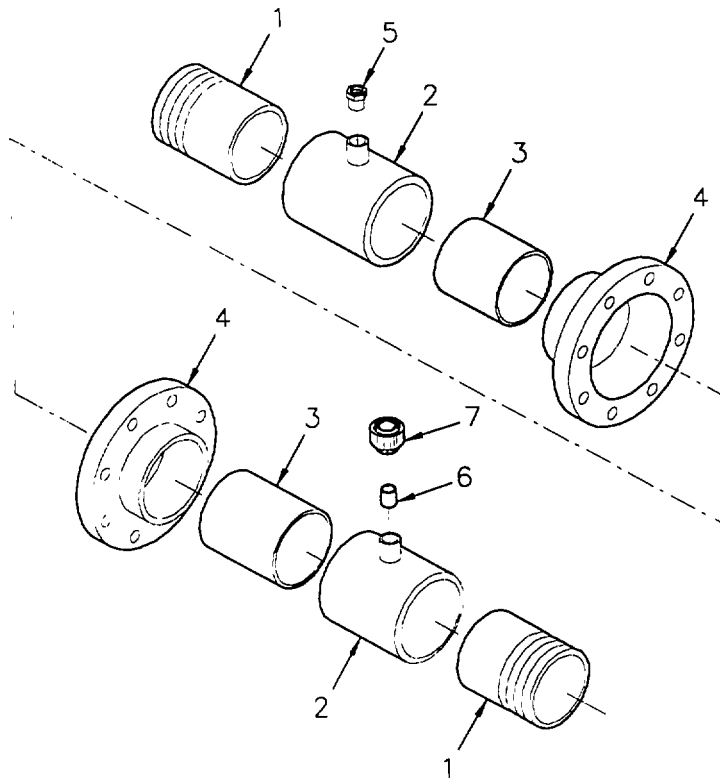

Figure 5-3. Manifold Repair
- (1) Temporarily insert pipe (3, Figure 5-3) into tee (2). Insert flange (4) over pipe (3).
- (2) Align top of tee (2) vertically between two holes in the top of flange (4).
- (3) Align top two holes of both flanges (4) and repeat steps 1 and 2.
- (4) Scratch alignment marks on tee (2), pipe (3), and flange (4) of both assemblies.